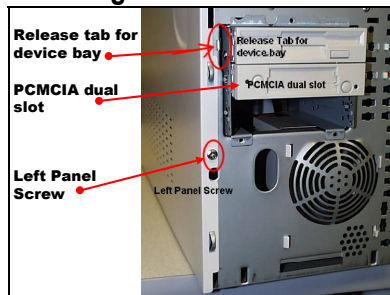

FIGURE IX.2
- 1) Facing the computer, on the left side about 4 inches up you will see a Phillips screw. (see *Figure IX.2*)